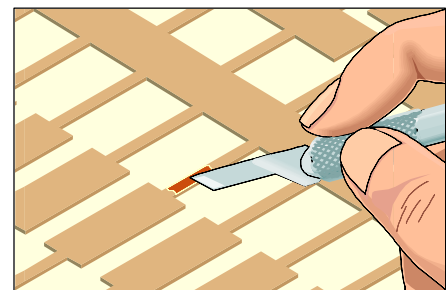

Figure 3: Scrape off the adhesive bonding film from the solder joint area on the back of new pad.
9. Before trimming out the new pad carefully scrape off the adhesive bonding film from the solder joint connection area on the back of the new pad. (See Figure 3).